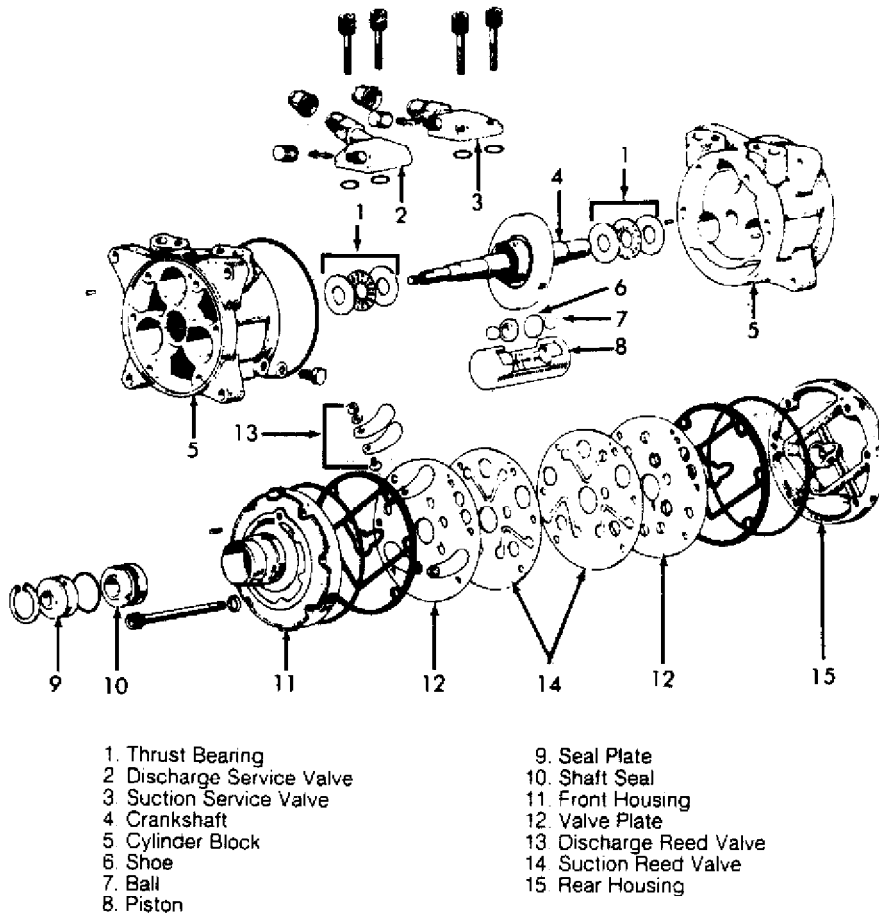

Fig. 12: Nippondenso 6-Cylinder Compressor
2) Remove shims from pressure plate. Remove snap ring from compressor. Tap rotor off shaft with plastic hammer. Disconnect stator wire from housing. Remove snap ring from inside stator. Remove stator. See Fig. 12.
5) Remove 6 through bolts from front head of compressor and discard washers. Tap head loose from compressor; be careful not to scratch sealing surfaces. Remove snap ring (if equipped) from front housing. Press seal plate out. Remove seal from shaft. See Fig. 12.